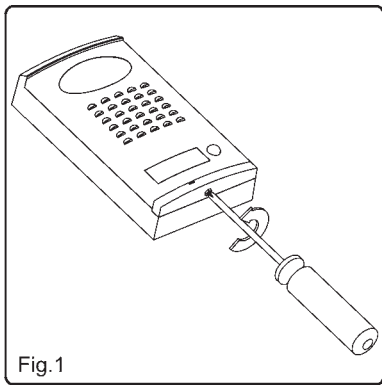

Fig.1
- Unscrew the screw at the bottom of the front plate using a Phillips screwdriver as shown on figure 1.